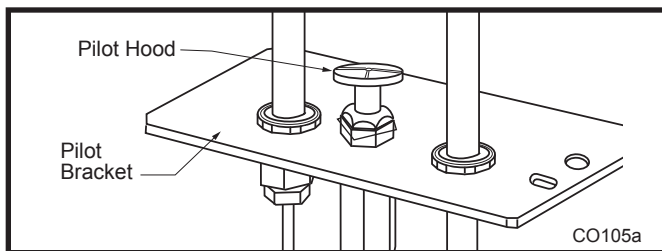

Fig. 65 Remove pilot hood.
7. Remove pilot hood by lifting up. (Fig. 65)